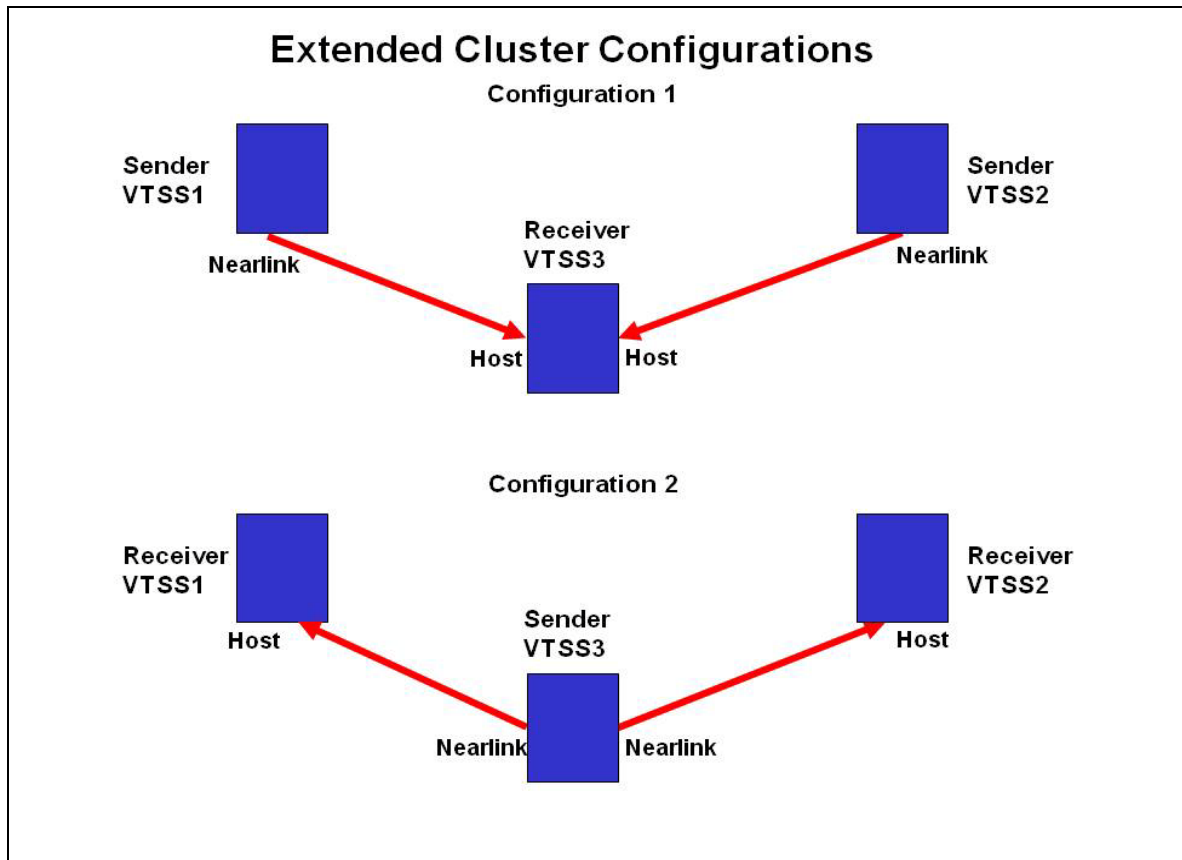

FIGURE A-19 Basic Extended Cluster Configurations
Extended Clustering (EC) allows three or more VTSSs to be connected by CLINKs within a single Tapeplex (1 CDS) configuration as shown in the example in FIGURE A-19
As shown in FIGURE A-19 on page 172, Configuration 1 shows 2 VTSSs replicating to a single “Collector” VTSS which is the most practical configuration because a primary location with multiple VSMs can feed VTVs to a secondary location with a single collector VSM. Both Synchronous and Asynchronous replication are available to be used on each Sender VTSS. Each VTSS must have equivalent (like model) RTDs connected. As shown in the CONFIG statements for Configuration 1 in FIGURE A-20 on page 174:
As shown in FIGURE A-19 on page 172, Configuration 2 shows a Single replicating VTSS connected to 2 receiver VTSSs. Note that the term “Collector” was not used here because a VTV is only replicated to one VTSS either VTSS1 or VTSS2 but not both and the receiver VTSS is not configurable. This is a very important concept to understand because there are not currently any Management Class parameters that will select a specific VTSS to direct a VTV. This configuration is not useful for implementation in a Primary and Secondary Location environment where the VTV must end up at a specific secondary location and may make Extended Bidirectional configurations undesirable. Both Synchronous and Asynchronous replication are available to be used on the Sender VTSS. Each VTSS must have equivalent (like model) RTDs connected.